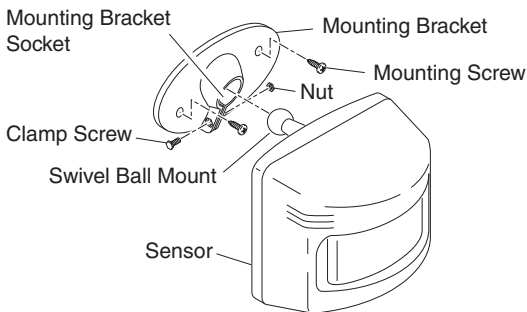

Figure 5 - Installing Motion Sensor
1. Install sensor mounting bracket where motion detection is desired. Attach sensor mounting bracket to a sturdy object (*i.e.* tree, post, house, etc.) using two screws provided (see Figure 5). Make sure unit has an unobstructed view. Note: If mounting bracket to a curved surface, attach mounting bracket vertically.
2. Install motion sensor to mounting bracket. Using a Philips-head screwdriver, loosen the clamp screw on the mounting bracket. Insert swivel ball mount on sensor into mounting bracket socket (*Note:* You should hear a snap). Aim sensor toward area where detection is desired. Tighten clamp screw (see Figure 5).